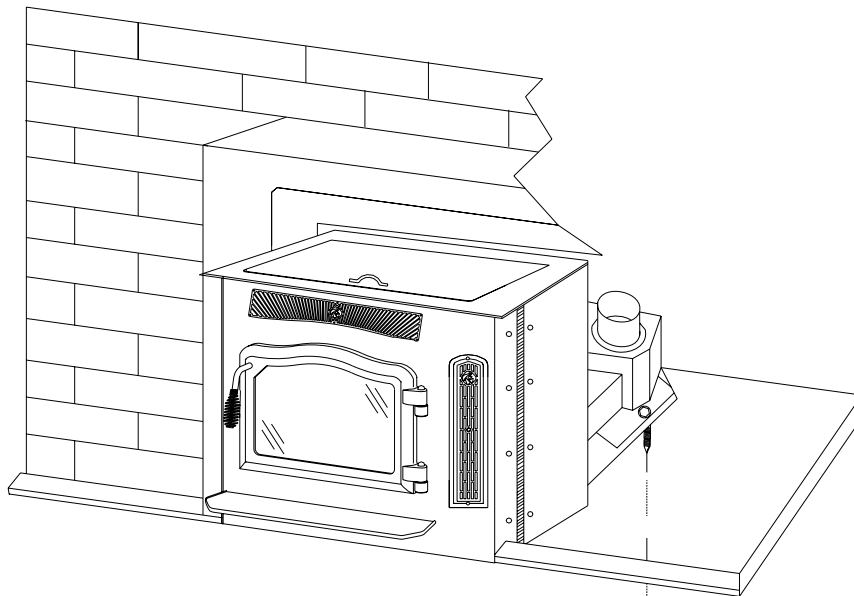

FIGURE 14: MOBILE HOME PEDESTAL INSTALLATION
2. The Crossfire must be secured to the floor of the mobile home, as shown in FIGURE 14 and must be properly grounded to the steel frame of a mobile home.